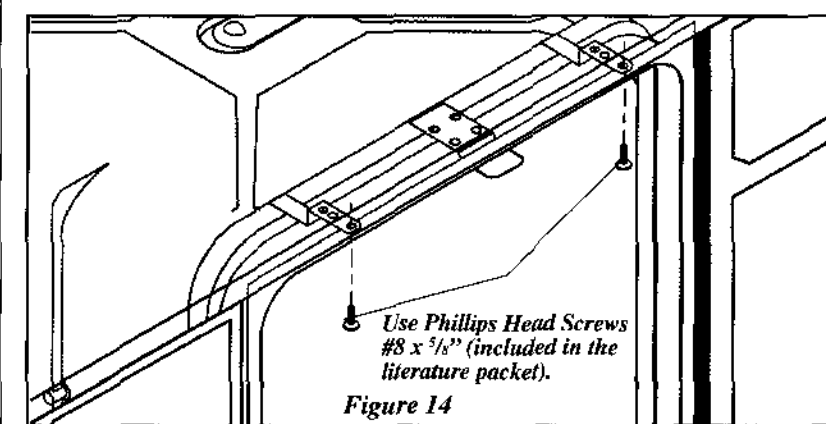

Figure 14
1. Adjust levelers (see Step 5) so mounting brackets touch underside of countertop. **IMPORTANT: Dishwasher must rest on floor—do not hang from countertop. See Figure 14.**